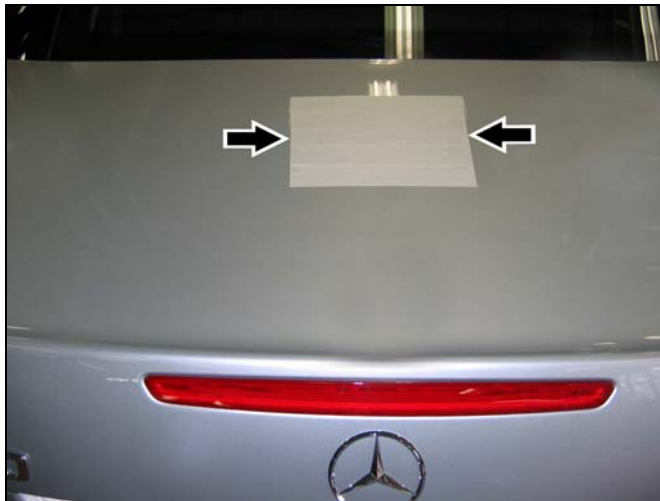

Figure 1
1. Tape off with masking tape (Figure 1) the area—approximately 8" x 8"—on the trunk lid exterior surface where the SDARS antenna will mount.